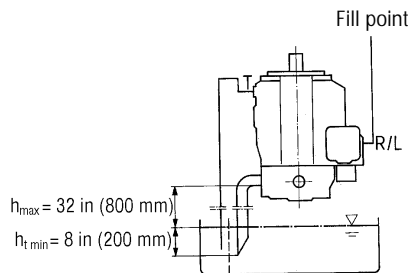

Fig. 2
b) If the minimum fluid level falls below the pump mounting flange: Ports »R/L«, »T« and possibly »S« must be piped, see fig. 2. The requirements then correspond to point 1.2.